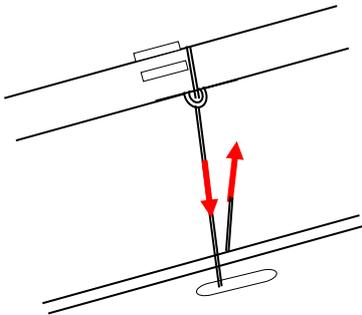

Figure 12: Beginning the Gammoning
- the line then passes through the gammoning hole in the stem and up around the bowsprit (Fig. 12).